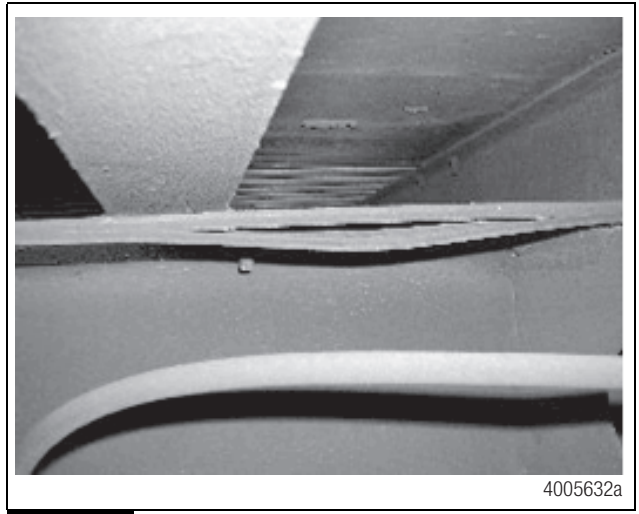

Figure 11
- **If the slider has a wave in the top flange between cross members one and two:** Refer to Level One Repair — Slider Has a Wave in the Top Flange Between Cross Members One and Two Without a Bend in the Vertical Wall in this bulletin. Figure 11.